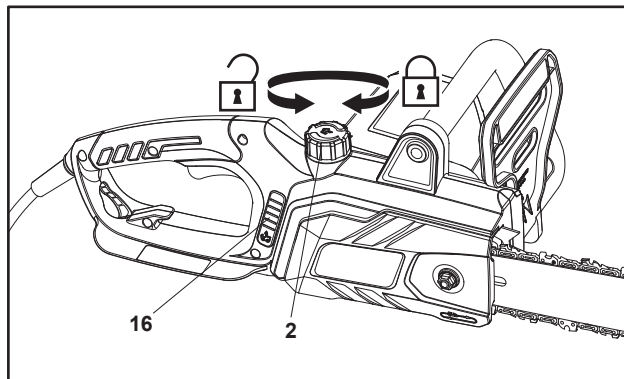

Fig. 8
1. Place the product on a stable, level surface with the oil tank cap (2) facing upward. We recommend laying a non-flammable sheet under the product.
2. Unscrew and remove the oil tank cap (2) (Fig. 8).